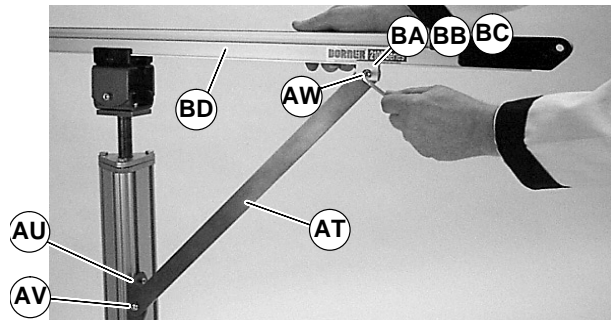
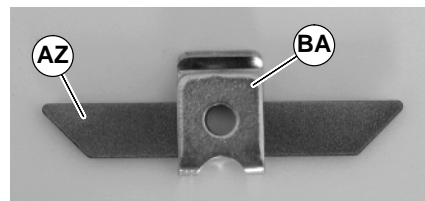

Figure 32
Figure 33
4. Attach brace (AT of Figure 32) to brace bracket (AU) with M8 screw (AV).
- 5A. For 2100 and 2200 conveyors: Attach brace (AT) to conveyor rail (BD) with 2100/2200 clip (BB) and M8 screw (AW).
- 5B. For 3100 and LPZ conveyors: Attach brace (AT) to conveyor rail (BD) with 3100/LPZ clip (BC) and M8 screw (AW).
- 5C. For 6100 conveyors: Insert belt guard (AZ of Figure 33) into 6100 clip (BA). Attach brace (AT of Figure 32) to conveyor rail (BD) with clip (BA) and M8 screw (AW).
6. Tighten M8 screws (AV & AW of Figure 32) to 9 Nm.